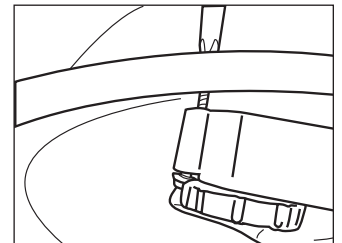

Figure 21
3. Tighten the screws (Figure 21).